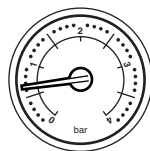

Fig. 10
2. With the system cold and the boiler not operating the pressure should be between 0.5 and 1.0 bar. During operation the pressure should not exceed 2.5 bar, and will normally be between 1.0 and 2.0 (Figs. 10 & 11).